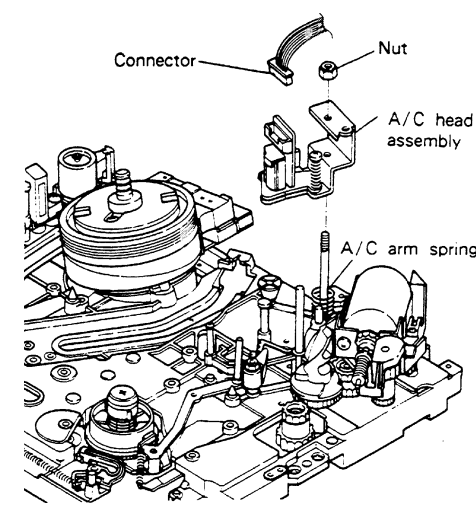

Fig. 2-12-1
2-12-1 Removal (Refer to Fig. 2-12-1, 2-12-2.)
2-12-2 Installation (Refer to Fig. 2-12-1~2-12-3.)
- Assemble the A/C head assembly to the shaft while turning the A/C arm spring counter-clockwise about 60°. (Refer to Fig. 2-12-1.)
- Plug in the connector to the A/C head PCB. (Refer to Fig. 2-12-1.)